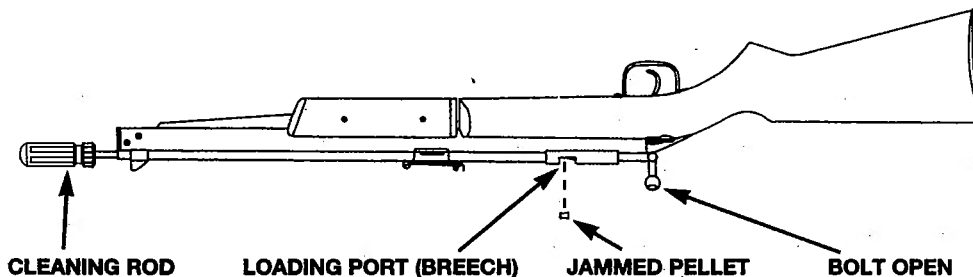

FIG. 7
- C. With the bolt in the open position, insert a cleaning rod (cleaning rods can be ordered from the factory) into the muzzle end of the barrel and gently push the jammed pellet into the pellet loading port (forward of the bolt). (Fig. 7) Don't try to reuse that pellet again.